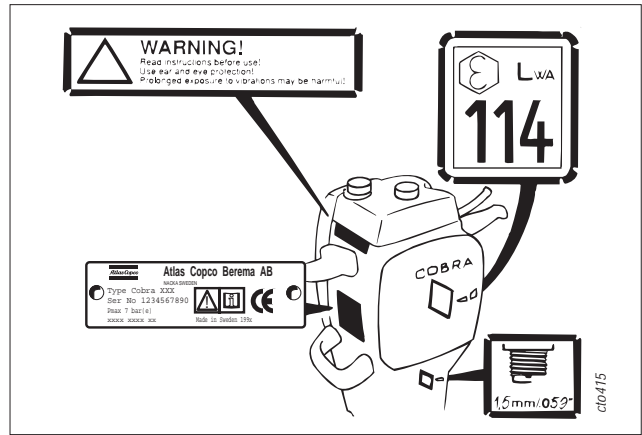

Fig. 1
- Always replace worn or damaged signs. The ordering numbers for signs can be found in the spare parts list (**fig. 1**).